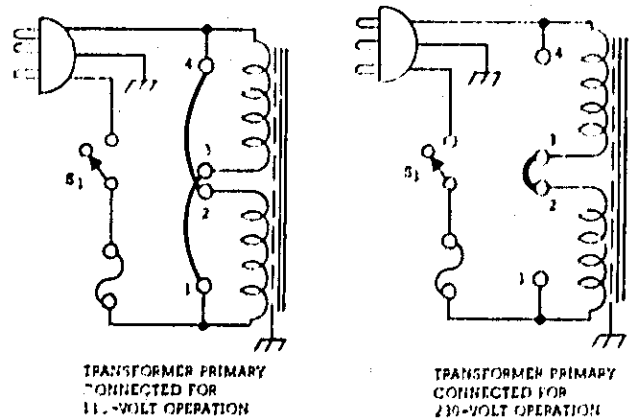

Figure 2-2. Input Power Transformer Connections
2-17 CONNECTIONS FOR 230 VOLT OPERATION (Figure 2-2)
- Remove the jumpers between taps 4-2 and 3-1. Solder a jumper between taps 3-2 on the input power transformer T1, see Figure 2-2.